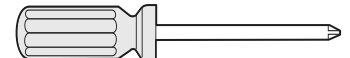

Fig. 6
- Phillips head and small blade-type screwdrivers (Fig. 6 and Fig. 7).